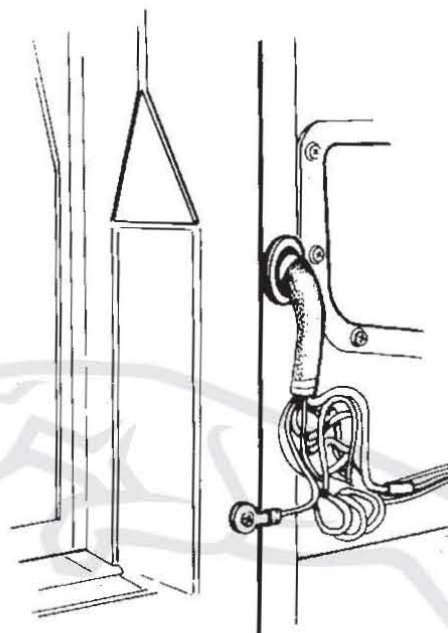

FIG. 1
2. Remove the passenger side 'A' post lower trim panel to expose the lower bulkhead/door harness (See Fig. 1). Passenger side RHD is shown, LHD is symmetrically opposite.
- (a) If oil is above the mark 'M' Fig. 1 – add no oil.